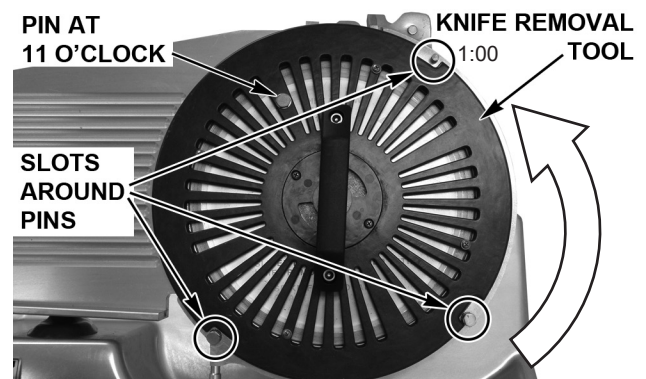

Fig. 14
- Place the Knife Removal Tool on the Knife (Fig. 14). The three slots on the Tool fit the three Pins on the Ring Guard (Fig. 14).